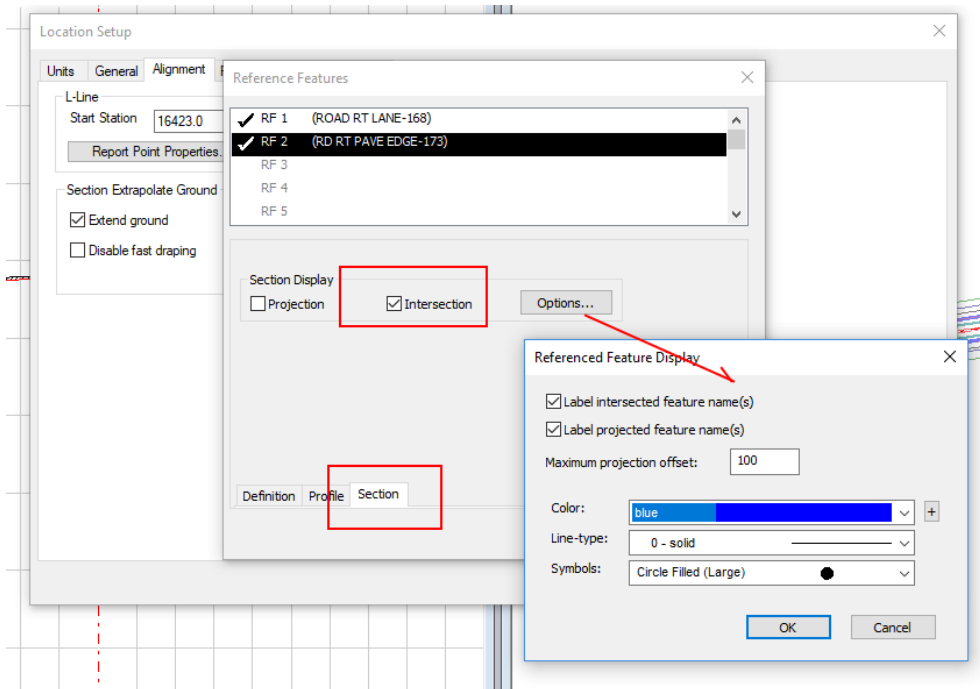

Figure 3 – Setting up Cross Section Display of Reference Features
- For both the reference features, make sure the Section tab setting is set to Intersection and that an appropriate symbol is chosen to display the reference features (see Figure 3 and 4 below):